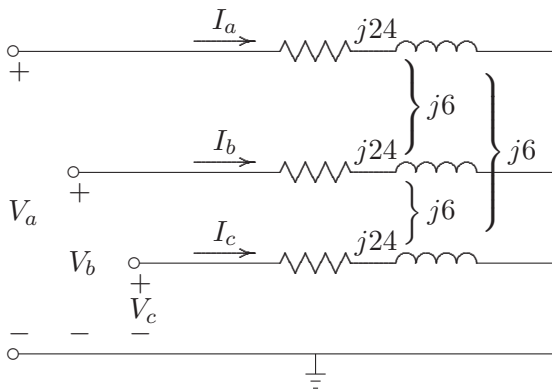

FIGURE 81
- 10.6.** A balanced three-phase voltage of 360-V line-to-neutral is applied to a balanced Y-connected load with ungrounded neutral, as shown in Figure 81. The three-phase load consists of three mutually-coupled reactances. Each phase has a series reactance of $Z_s = j24 \Omega$, and the mutual coupling between phases is $Z_m = j6 \Omega$.